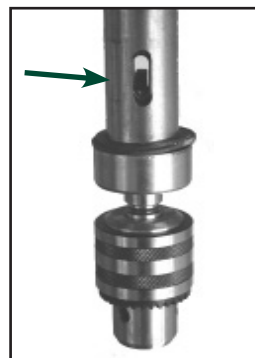

Figure 11
3. Carefully insert the chuck and arbor assembly into the spindle, making sure to align the flat part of the arbor with the spindle. Fig. 11.